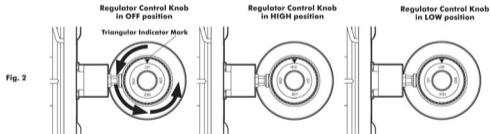
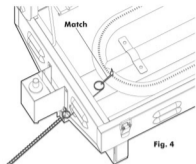

Fig. 2
Fig. 4
2. Push the Regulator Knob in and turn 270 degrees (or 3/4 turn) counterclockwise to the High position (Fig. 2). Note the triangular indicator mark on the silver regulator housing.
2. While holding a lit match near the burner (Fig. 4), push the Regulator Knob in and turn 270 degrees (or 3/4 turn) counterclockwise to the High position (Fig. 2).